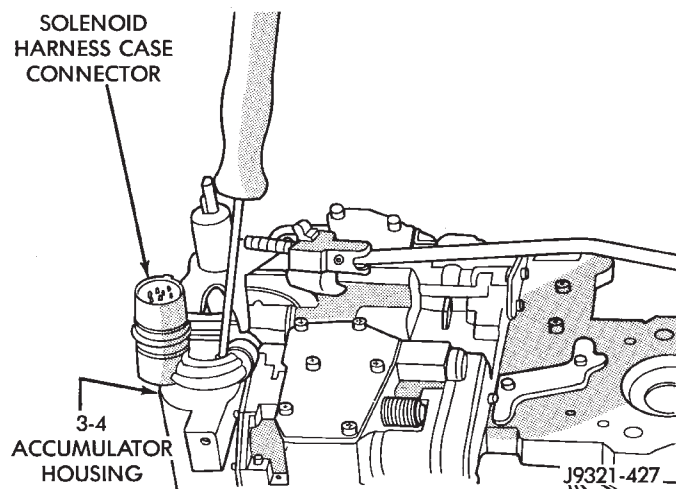
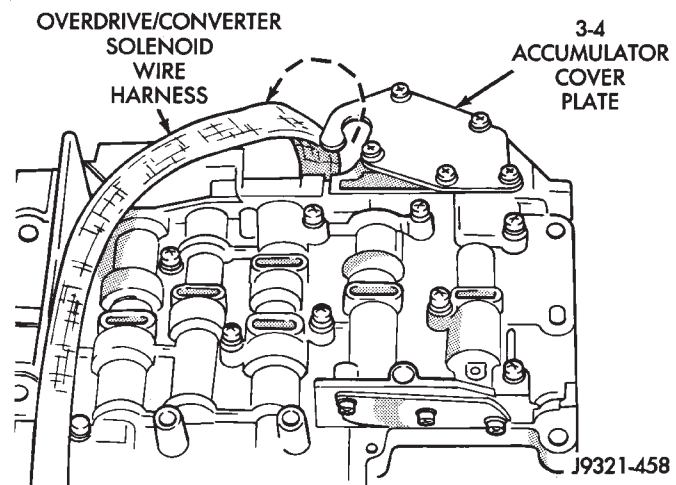

Fig. 85 Solenoid Harness Case Connector Shoulder Bolt
Fig. 86 Solenoid Harness Routing
(14) Install pressure regulator valve.
(15) Install switch valve.
(16) Position adjusting screw bracket on valve body. Align valve springs and press bracket into place. Install short, upper bracket screws first and long bottom screw last. Verify that valve springs and bracket are properly aligned. Then tighten all three bracket screws to 4 N·m (35 in. lbs.) torque.
(17) Lubricate solenoid case connector O-rings and shaft of manual lever with light coat of petroleum jelly.
(18) Obtain new fluid filter for valve body but do not install filter at this time.
(19) If line pressure and/or throttle pressure adjustment screw settings were not disturbed, continue with overhaul or reassembly. However, if adjustment screw settings **were** moved or changed, readjust as described in Valve Body Control Pressure Adjustment procedure.
(20) Attach solenoid case connector to 3-4 accumulator with shoulder-type screw. Connector has small locating tang that fits in dimple at top of accumulator housing (Fig. 85). Seat tang in dimple before tightening connector screw.
(21) Install solenoid assembly and gasket. Tighten solenoid attaching screws to 8 N·m (72 in. lbs.) torque.
(22) Verify that solenoid wire harness is properly routed (Fig. 86). **Solenoid harness must be clear of manual lever and park rod and not be pinched between accumulator housing and cover.**